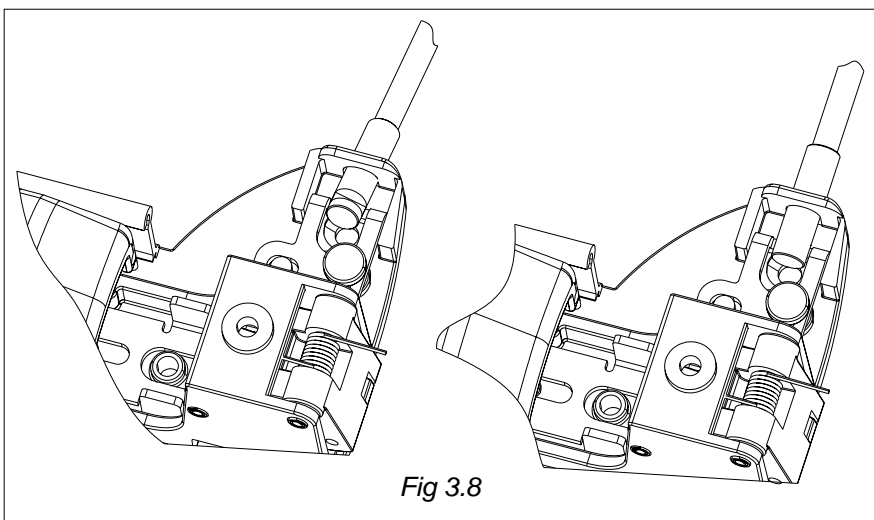

Fig 3.8
- 4) Before fitting the Touchbar, the short rod needs to be fitted, to do this refer to **Figs 3.8.**
- 6) Rotate the rod until it clips over the cut out in the linkage. (see Fig.3.8)